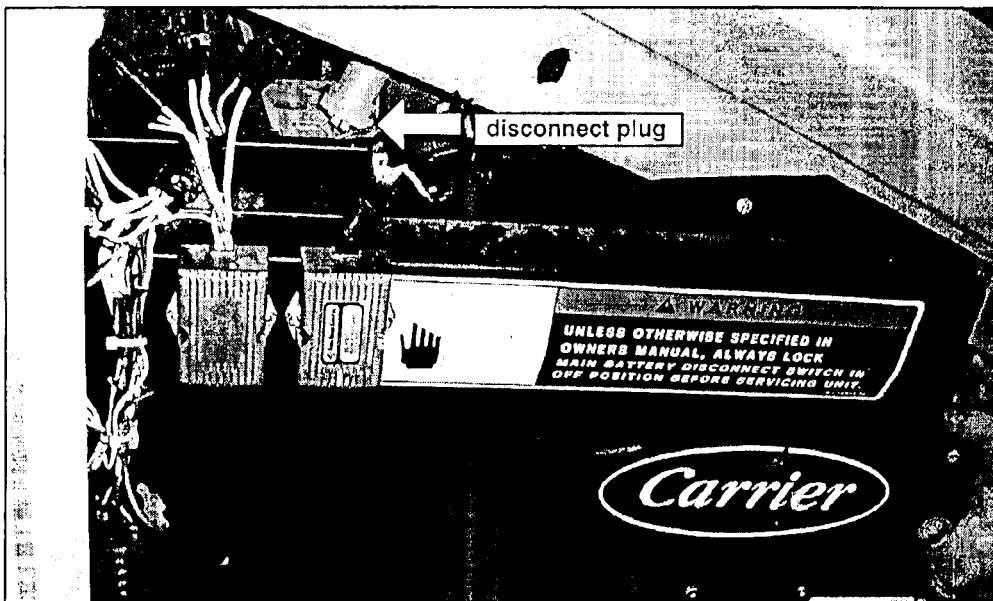

Figure 5.
- 9. Disconnect the round 5-pin Deutsch plug (Figure 5) (if applicable).
- 10. Align and re-install the access panel (Figure 5).